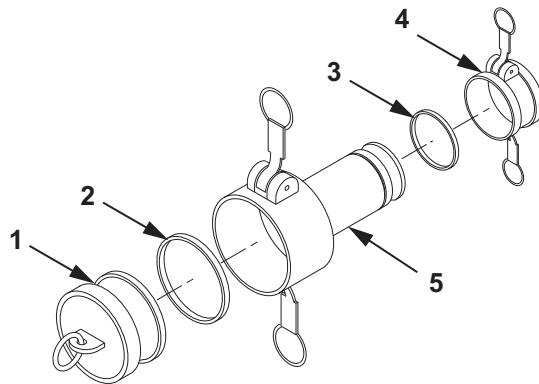

Figure 2. 4 In. Female X 2 In. Female Reducer Disassembly.
1. Install new gasket (Figure 2, Item 3) into 2 in. dust cap (Figure 2, Item 4).
2. Install new gasket (Figure 2, Item 2) into reducer assembly (Figure 2, Item 5).
3. Install 4 in. dust cap (Figure 2, Item 4) on reducer assembly (Figure 2, Item 5).
4. Install 3 in. dust plug (Figure 2, Item 1) in reducer assembly (Figure 2, Item 5).